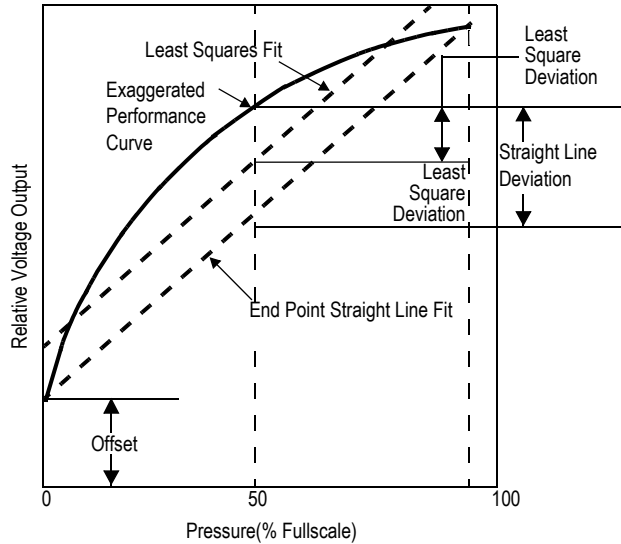

Figure 2. Linearity Specification Comparison
Linearity refers to how well a transducer's output follows the equation: $V_{OUT} = V_{OFF} + \text{sensitivity} \times P$ over the operating pressure range. There are two basic methods for calculating nonlinearity: (1) end point straight line fit (see Figure 2) or (2) a least squares best line fit. While a least squares fit gives